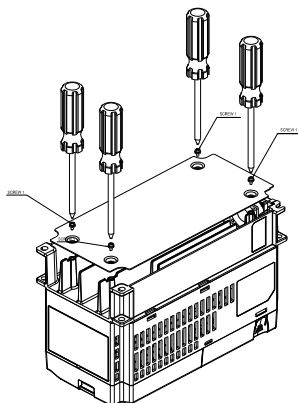

Figure 1
1. Install accessory 1 by fastening 4 of the screw 1 (M3) (figure 1). Screw torque: 6~8 kg-cm / [5.21~6.94 lb-in.] / [0.6~0.8 Nm]